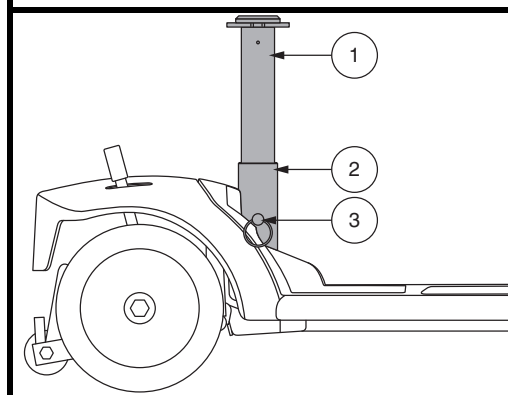

Figure 19. Seat Height Adjustment
The seat can be repositioned to different heights. See figure 19.
2. Remove the upper seat post from the Travel Scooter by removing the detent pin from the lower portion of the seat post, then lifting the post straight up and off the Travel Scooter. See **figure 19**.